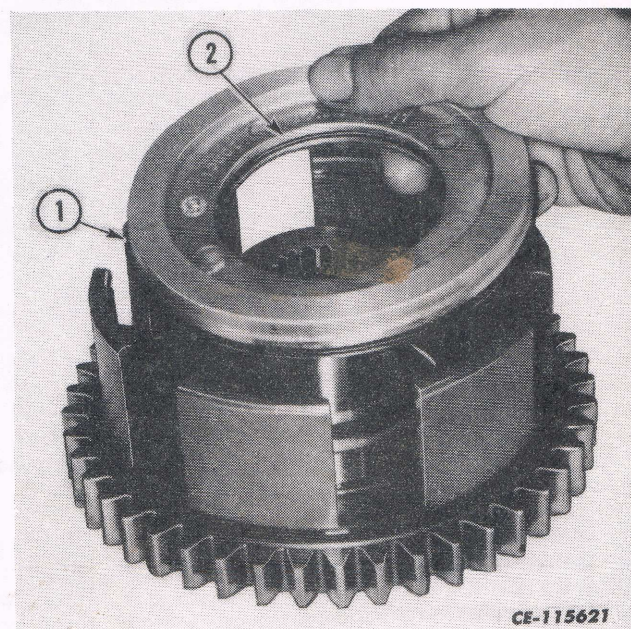

Fig. 12
5. Inspect the clutch piston seal rings and replace them if necessary. See Fig. 12.